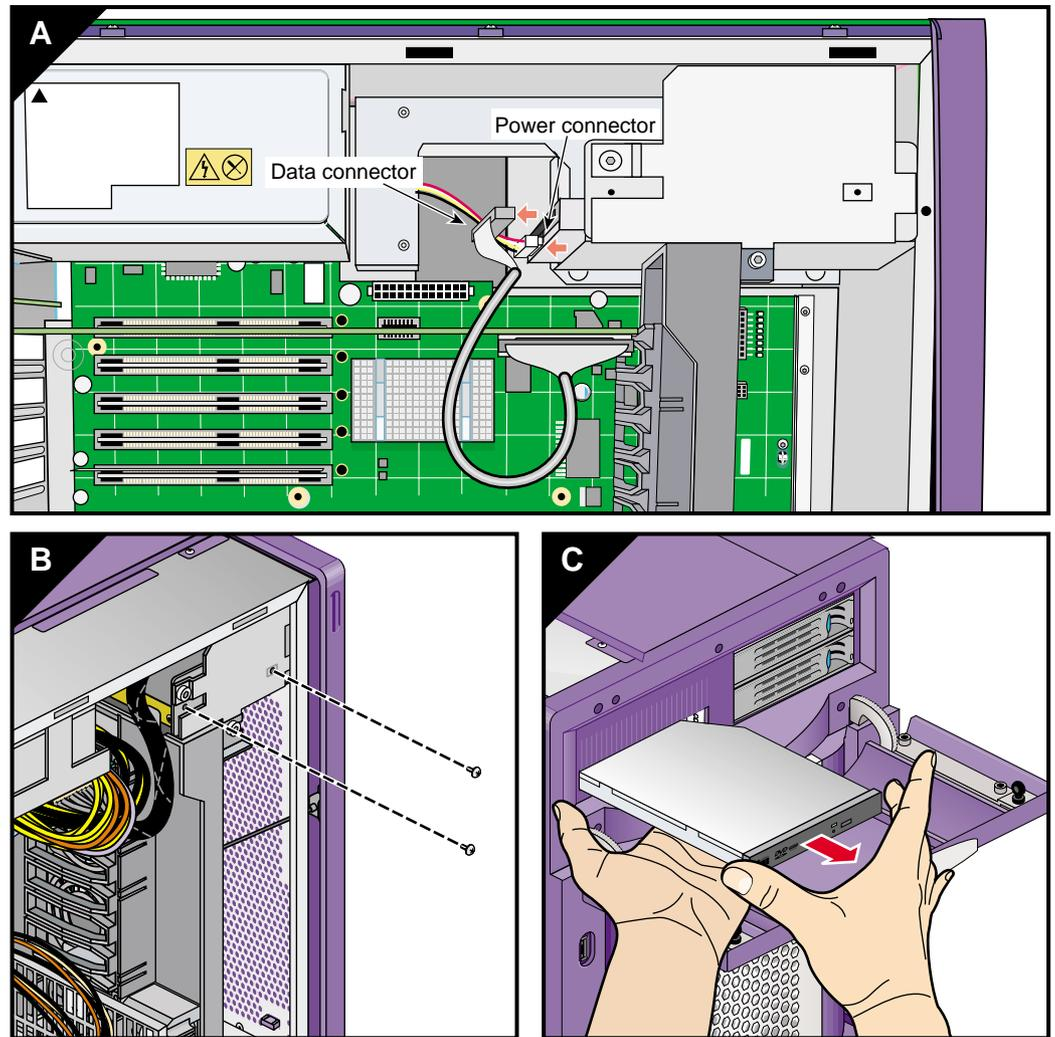

Figure 3-14 Removing the DVD-ROM Drive
2. Undo the side retention screws that hold the drive in place in the slot. Then slide the drive out of the drive cage (see Figure 3-14).
Note: You must remove the existing DVD-ROM drive before installing a new one. See the previous steps and Figure 3-14 on page 59 if you have not yet removed the installed drive.